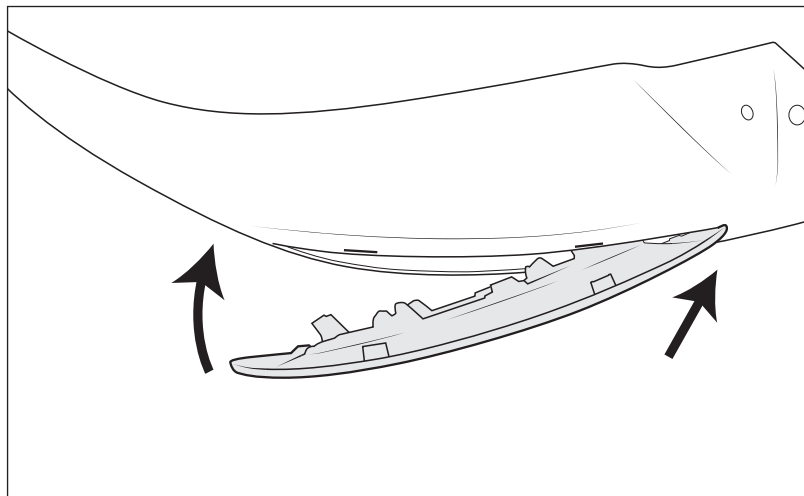

Figure 28
- C. Carefully position the bezel on the bumper corner and install. It helps to start by hooking one end of the bezel onto the corner and working across the bezel. Ensure that all metal clips are fully seated and both plastic tabs are snapped into place (fig. 28).